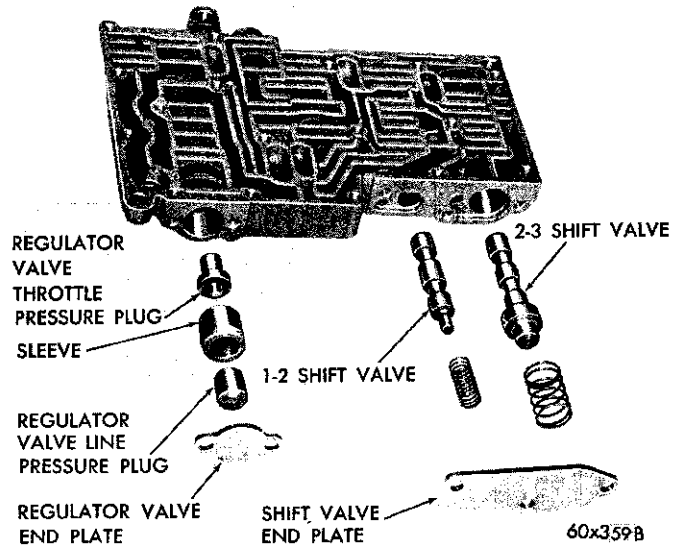

Fig. 61—Valve Body—Shift Valve Side (Disassembled)
(16) Remove the shift valve end plate (Fig. 61) and slide out the two springs and valves.
(17) Remove the regulator valve end plate. Slide the regulator valve line pressure plug, sleeve, and
(5) Install the 1-2 and 2-3 shift valves and springs (Fig. 61). Install the shift valve end plate and tighten the three retaining screws to 28 inch-pounds torque.
(6) Install the regulator valve throttle pressure plug sleeve, and the line pressure plug (Fig. 61). Install the regulator valve end plate and tighten the two retaining screws to 28 inch-pounds torque.